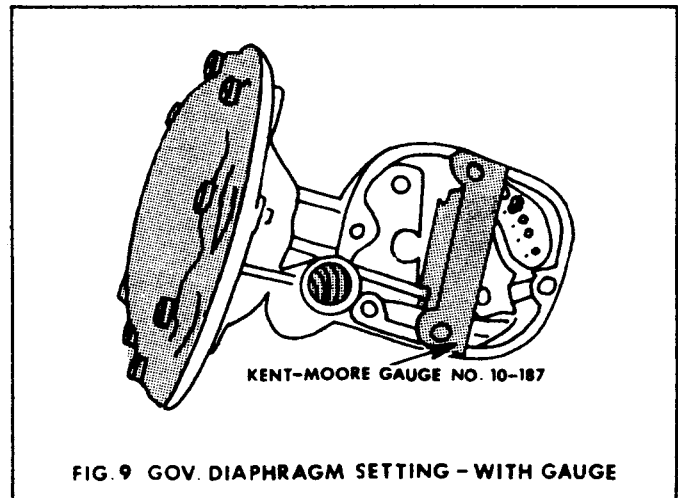

FIG. 9 GOV. DIAPHRAGM SETTING - WITH GAUGE
(a) With gauge, Fig. 9. Position diaphragm cover (Fig. 1,CF) over diaphragm (CH) and install cover screws (CS,CG), partially tighten until flanges almost meet. Engage bent end of diaphragm rod (CH) with slot located in governor diaphragm gage (Kent Moore Gauge No. 10-187). Locate gauge over governor housing (CJ). When finished, tighten cover screws (CS,CG) down evenly and remove gauge.